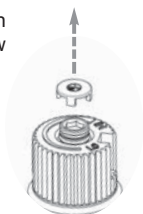

Fig. 1
8. Remove the black protection cap by hand from the hi-low knob (Fig. 1).